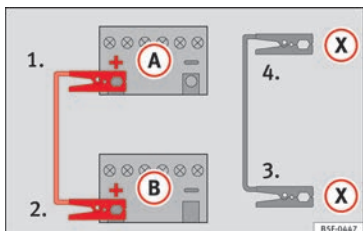

Fig. 75 Diagram of connections for vehicles with Start-Stop system.
- 4b. *For vehicles with Start-Stop system:* connect one end of the **black** jump lead (X) to a suitable ground terminal, to a solid piece of metal in the engine block, or to the engine block itself »» Fig. 75.
5. Connect the other end of the **black** jump lead (X) to a solid metal component bolted to the engine block or to the engine block itself of the vehicle with the flat battery. Do not connect it to a point near the battery (A).